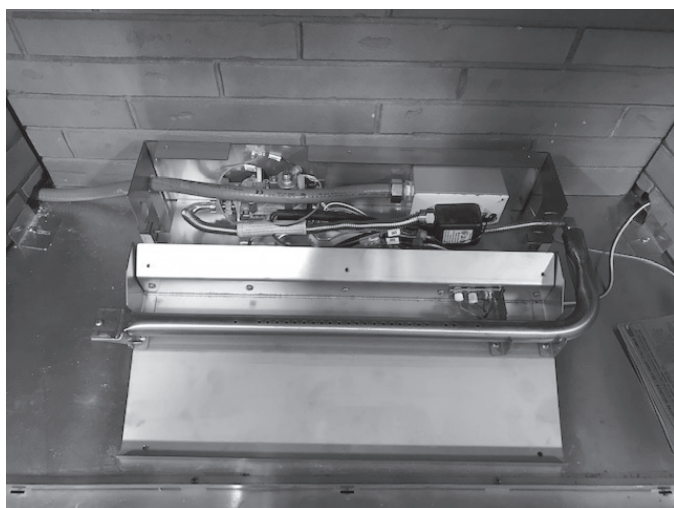

Figure 5.4 Reattach Burner Assembly
- Reverse and reinstall junction box, (2) screws, and route electrical cable through hole in the left side of the appliance.
- Reattach burner assembly to firebox bottom, (4) screws. See Figure 5.4.